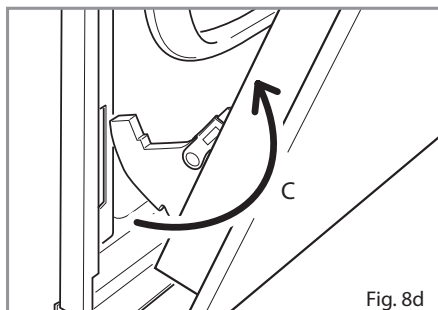

Fig. 8d
- Withdraw the hinge hooks from their location following arrow **C** (fig. 8d).